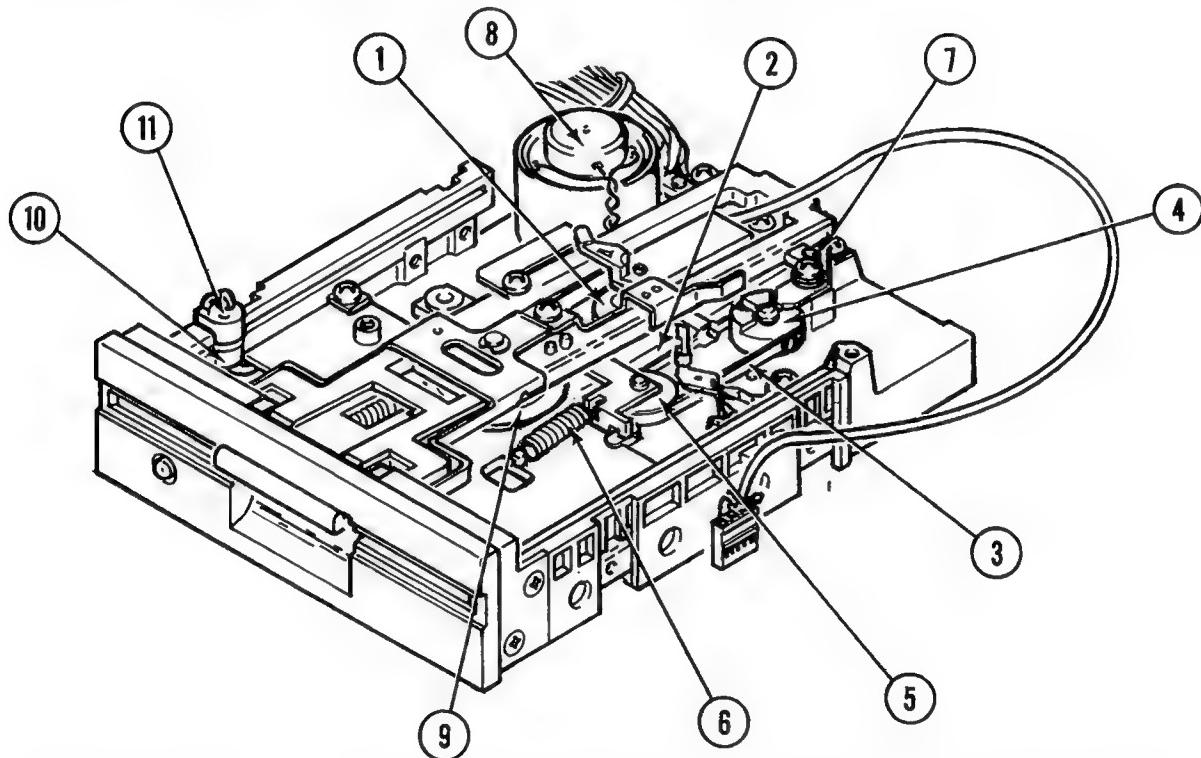

Figure 2-3. Drive Unit, Track Selection and Write Protect.
2.2.2. Track Selection (Refer to Figure 2-3)
The mechanical drive system rotates the drive hub and thus the disk itself. The drive motor/tachometer (Figure 2-3, Item 8) contains a motor and a tachometer on a common shaft. The tachometer is used to generate speed information for feedback purposes. The drive motor shaft is connected to the drive pulley (Item 2), which turns the flywheel (Item 3) via the drive belt (Item 4). The flywheel smooths out the motion of the drive hub (Figure 2-3, Item 9). The flywheel also contains a timing disk for the purpose of disk speed calibration.
2-2-4. Write Protect System (Refer to Figure 2-3)